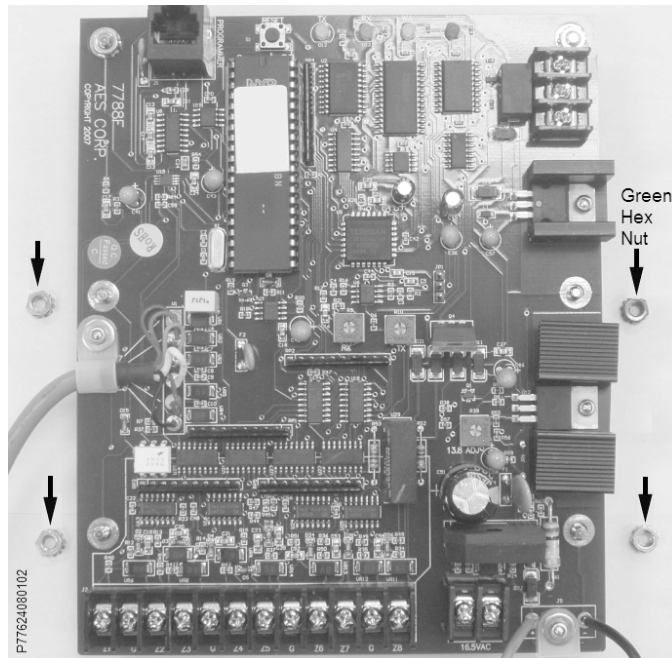

Figure 6.
2. Remove the 4 lower hex nuts that hold the subscriber board to the enclosure shown in Figure 6. Save the hex nuts.
4. Place the 7762 Hardware Supervisor Card on the 4 installed standoffs. Secure the 7762 with the 4 hex nuts removed. Do not over tighten. **Important:** Place the green (Earth ground) hex nut on the right center standoff in the position shown in Figure 6 .